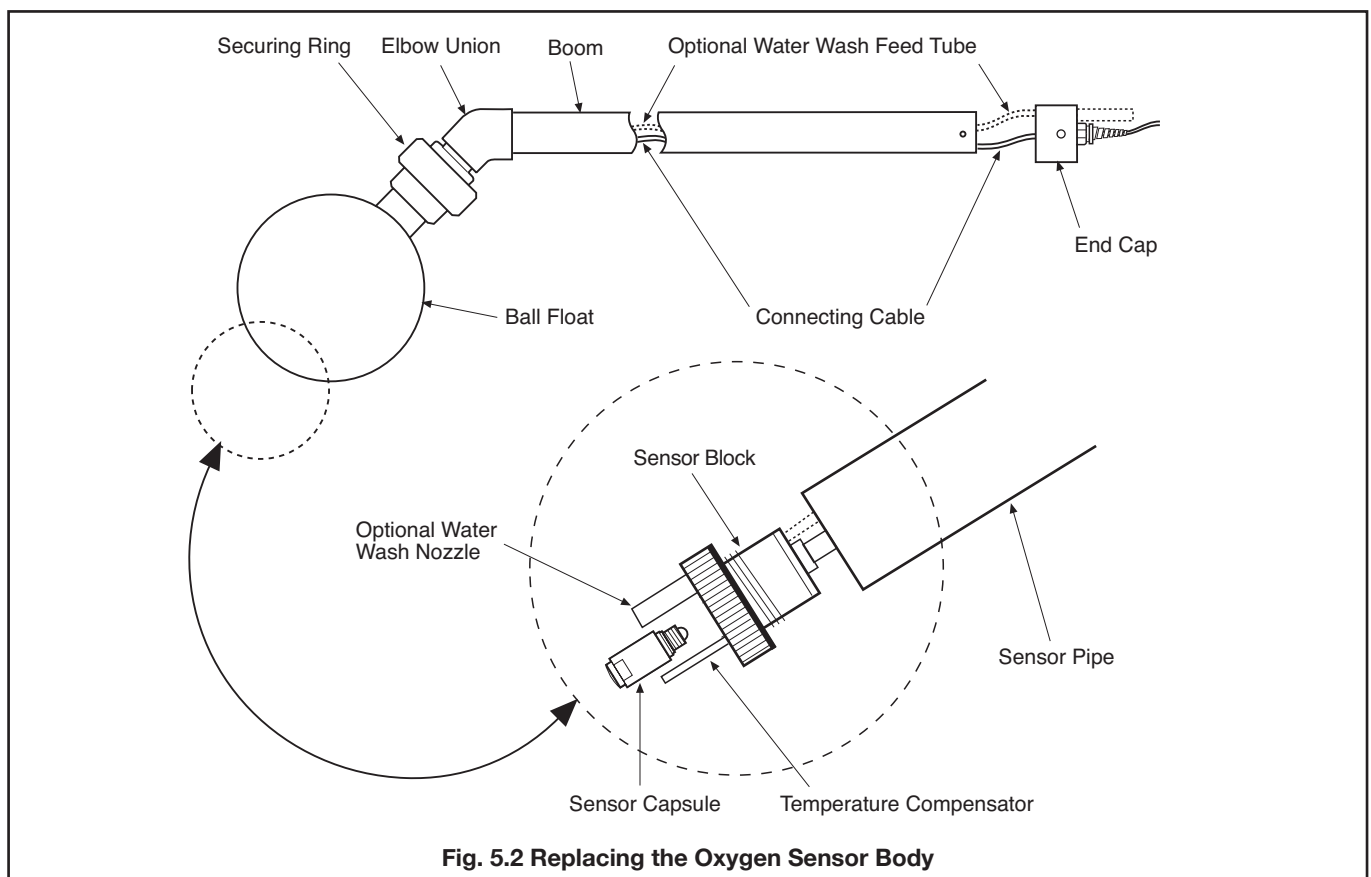

Fig. 5.2 Replacing the Oxygen Sensor Body
5.2.1 Floating Ball System – Fig. 5.2